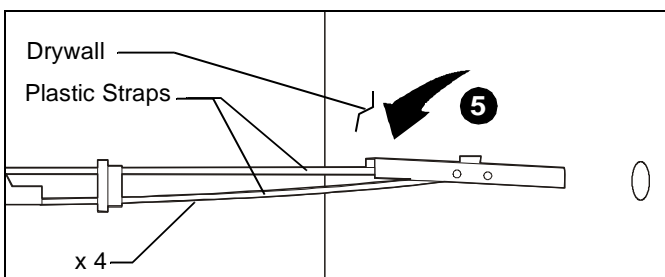

Figure 5
5. Hold metal channel on Toggler® 1/4-20 (BB) Snap-Toggle (not included) flat alongside plastic straps and slide channel through hole. (See Figure 5)